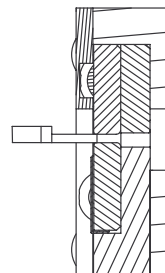

Figure 6
To gage die closure, refer to Figure 6 and proceed as follows:
5. Align the GO element with the wire barrel section of the crimping chamber. Push element straight into the crimping chamber without using force. The GO element must pass completely through the crimping chamber. See Figure 6.
6. Align the NO-GO element and try to insert it straight into the same section of the crimping chamber. The NO-GO element may start entry, but must not pass completely through the crimping chamber. See Figure 6.